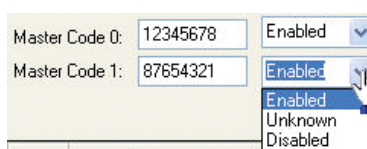
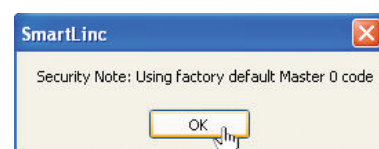

Figure 23
Figure 24
- The SMARTPOINT system has the ability to enroll two separate Master Codes. Master Code 0 must always be enrolled but Master Code 1 may be selected as Disabled (Figure 23). New codes may be entered on this screen as well for setup in the Logic Module. The codes entered must match the codes that were sent via the setup to the locks. If new codes are not entered, when sending the setup to the lock a window will pop-up with a security reminder that these codes are set to default (Figure 24).